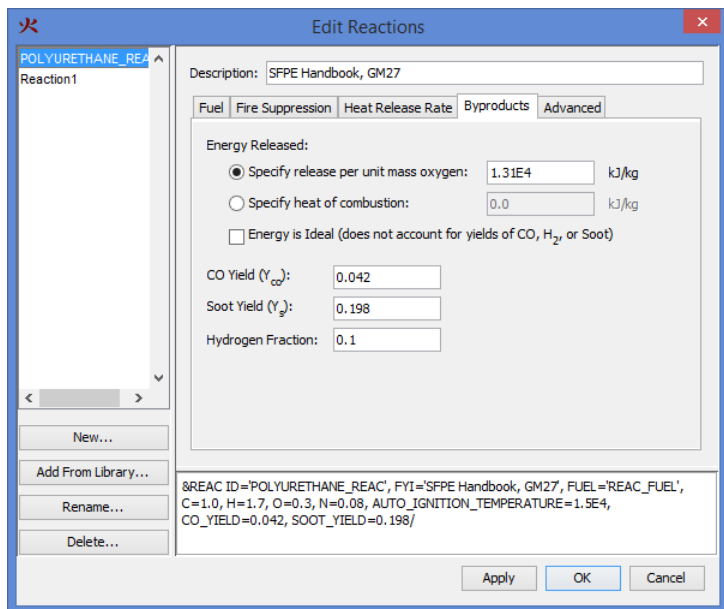

Figure 12.4. Byproducts panel of the Edit Reactions dialog
4. On the **Byproducts** tab, you can select either **Specify release per unit mass oxygen** (EPUMO2) or **specify heat of combustion** (HEAT_OF_COMBUSTION). You can also specify the CO yield, H₂ yield, and Soot yield. The values used for the polyurethane reaction are shown in Figure 12.4.